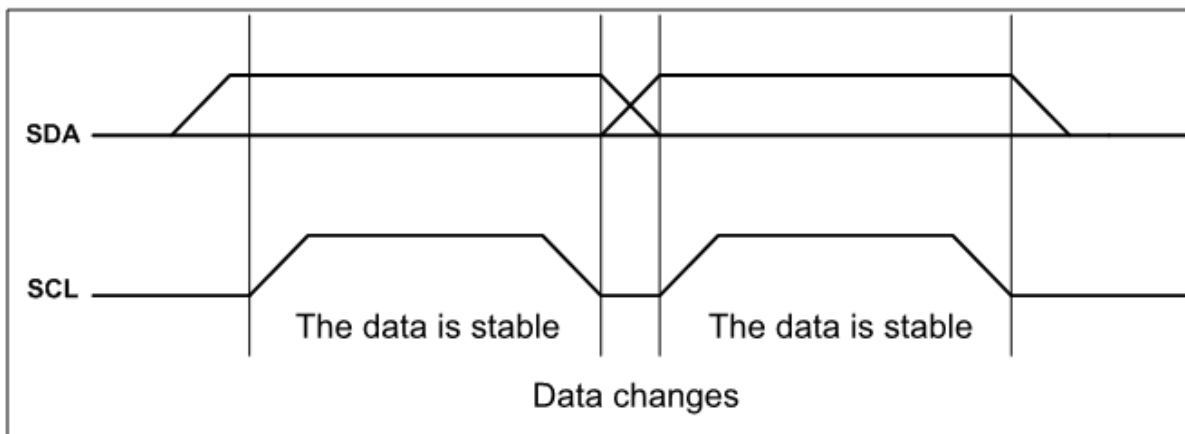

Figure 21-3 Bit Protocol
**Clock effective timing:** SDA pin is usually pulled high by peripheral devices. The data of the SDA pin should change when SCL is low (see Figure 21-3); when the data changes when SCL is high, it will be regarded as a start or stop command as described below.